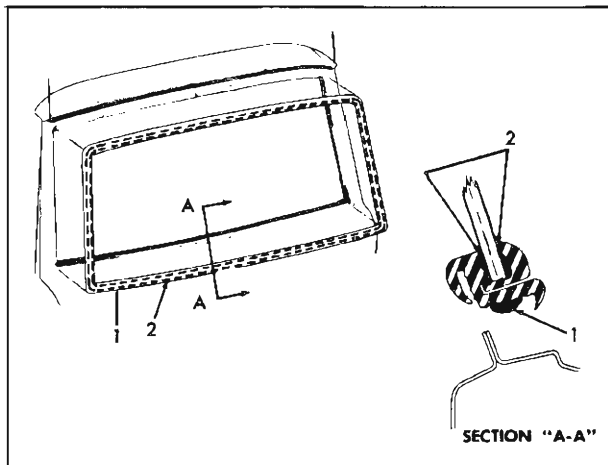

Fig. 14-20 Back Door Window Sealing
4. Apply a continuous ribbon of medium-bodied sealer (Approximately  $\frac{1}{4}$ " thick) to base of rubber channel, (1 in Section "A-A", Fig. 14-20), completely around rubber channel.
7. Using a pressure type applicator, apply weatherstrip adhesive (black) between rubber channel and glass on inside and outside of glass, (2 in Fig. 14-20) completely around glass and rubber channel. Application of adhesive should be continuous with no skips.